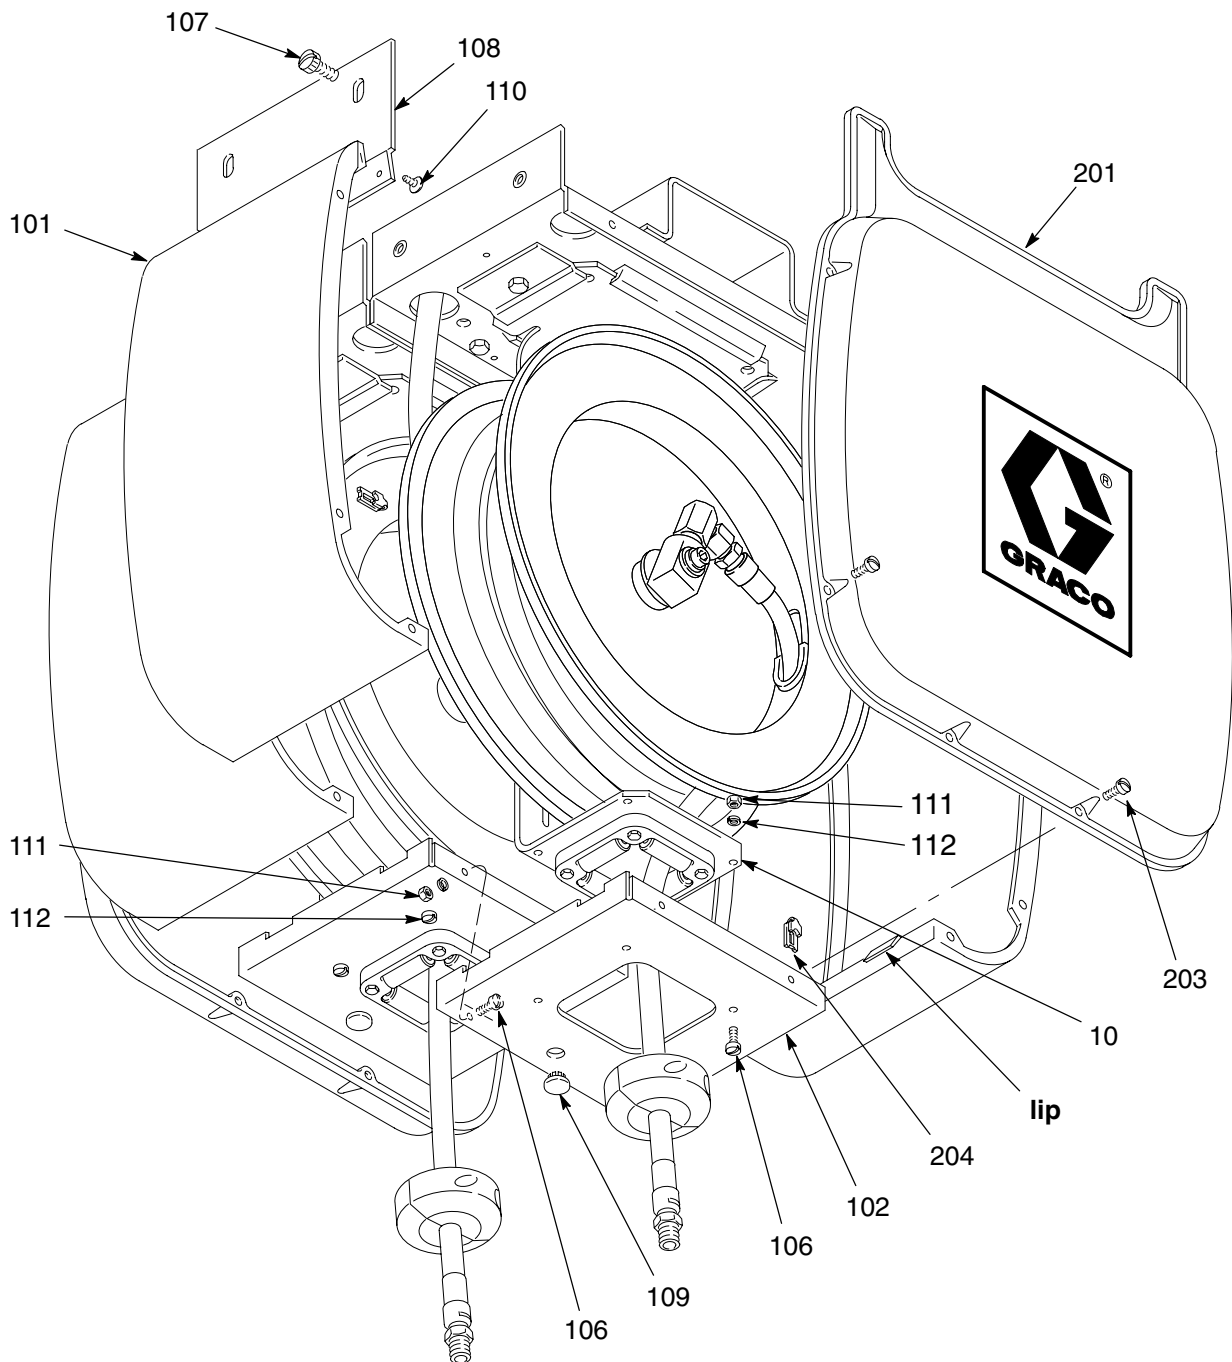

Fig. 11
(See Fig. 11.)
1. Secure the hose reel cap (102) to the hose reel support (10) using the screws (106), lockwashers (112), and nuts (111) as shown. See Fig. 11 for correct positioning. Push the button plug (109) into the hole in the cap (102).
3. Noting the correct position, secure the black trim plate (108) to the side panel (101) using the machine screws (110) as shown.
4. Hook the lips of the side enclosures onto the cap (102), and secure the enclosures with the thumb-screws (107).
5. Attach the end enclosures (201) using screws (203) and spring nuts (204) as shown.